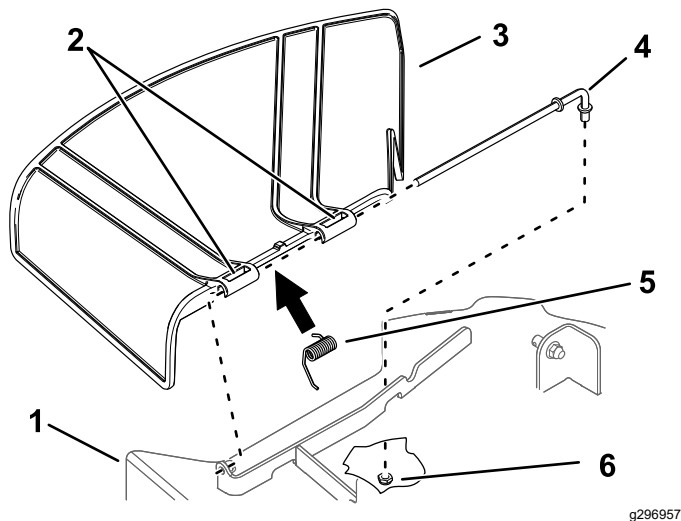

Figure 72
1. Remove the nut (3/8 inch) from the rod under the mower (Figure 72).
2. Slide the rod out of the deck bracket, spring, and grass deflector (Figure 72).
4. Install the new grass deflector (Figure 72).
7. Slide the rod through the second grass-deflector pivot (Figure 72).
9. Secure the rear end of the rod into the mower with a nut (3/8 inch) as shown in Figure 72.